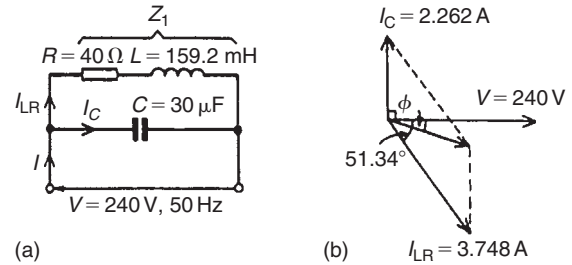

Figure 16.6
The circuit diagram is shown in Fig. 16.6(a).
(see phasor diagram in Fig. 16.6(b))
(see phasor diagram of Fig. 16.6(b)).
- (c) The supply current I is the phasor sum of I_{LR} and I_C . This may be obtained by drawing the phasor diagram to scale and measuring the current I and its phase angle relative to V . (Current I will always be the diagonal of the parallelogram formed as in Fig. 16.6(b).)